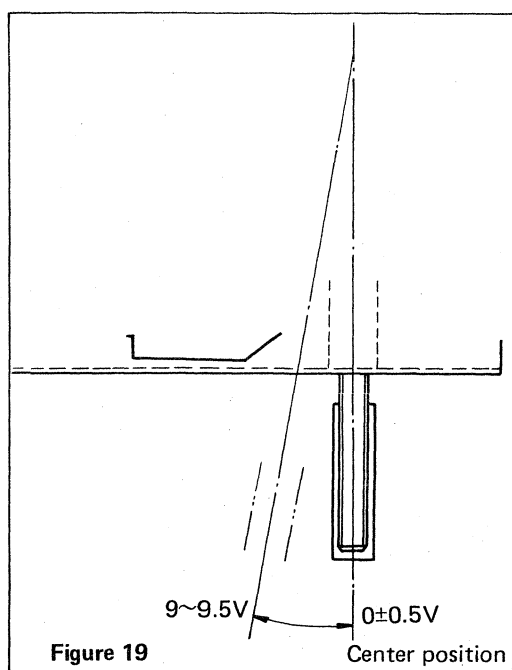

Figure 19
- (2) Adjust VR 201 so that voltage reads 9.0 to 9.5V when tonearm is swung to left side by hand (See Fig. 19), and then adjust eccentric pin (B) so that voltage reads -0.5 to $+0.5$ V when tonearm locates at the center (See Fig. 19, 20).